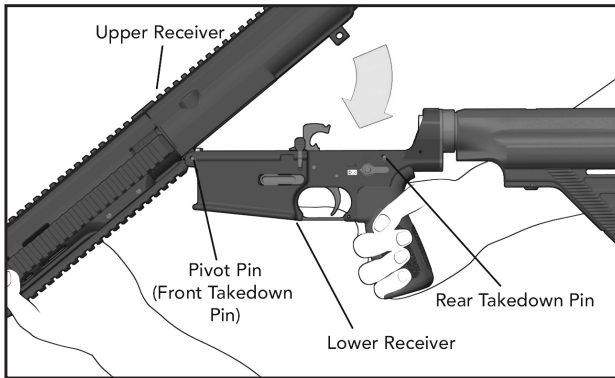

Fig. 67 – Closing Upper and Lower Receiver
- Mount the lower receiver to the upper receiver. Drift the front pivot pin from right to left. The pivot pin will not completely lock but it will engage the upper receiver (Fig. 67).